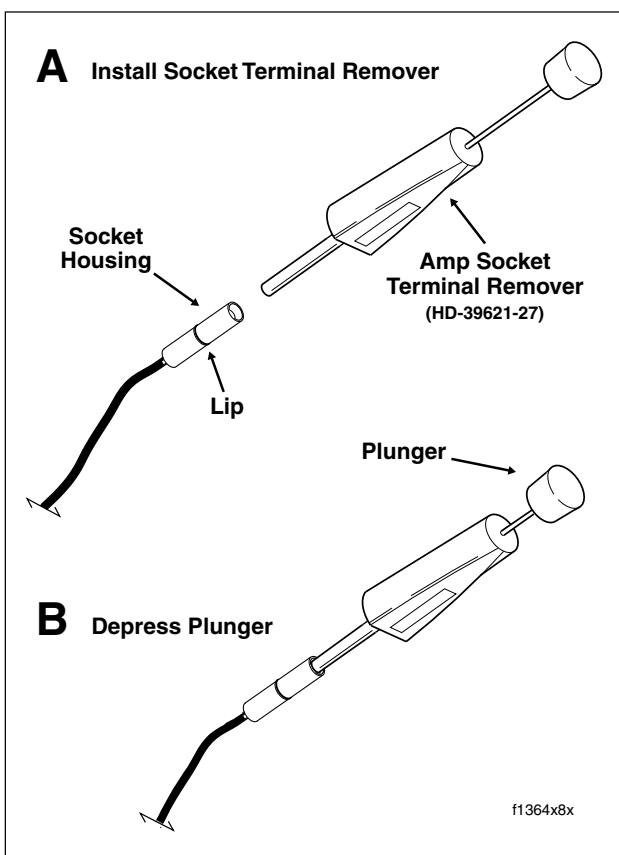

Figure 8-58. Remove Terminal from Amp Socket Housing
3. Fit the barrel of the Amp Socket Terminal Remover (HD-39621-27) over the socket, and while rotating the tool slightly, push until it bottoms in the housing. Allow the plunger to “back out” of the handle. See Figure 8-58.